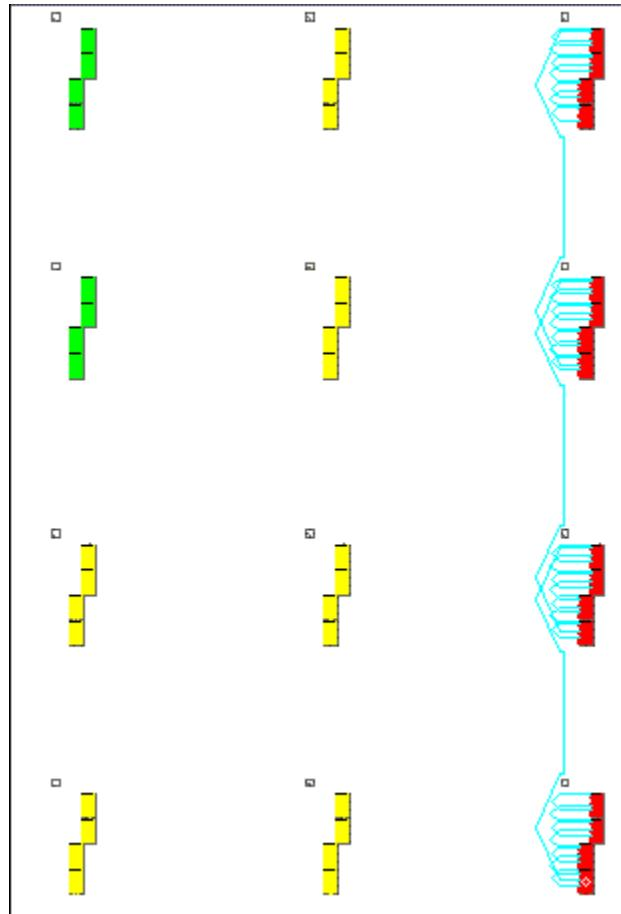

Figure 10: Correct Placement of tap_dly Circuits
6. If the tap delay circuit is properly constrained, the logic is located in a single column in four sequential Configurable Logic Block (CLBs). This will indicate the RLOC_ORIGIN is correct. Figure 10, page 108 is a screen capture showing an example of the correct placement of the tap_dly circuits.